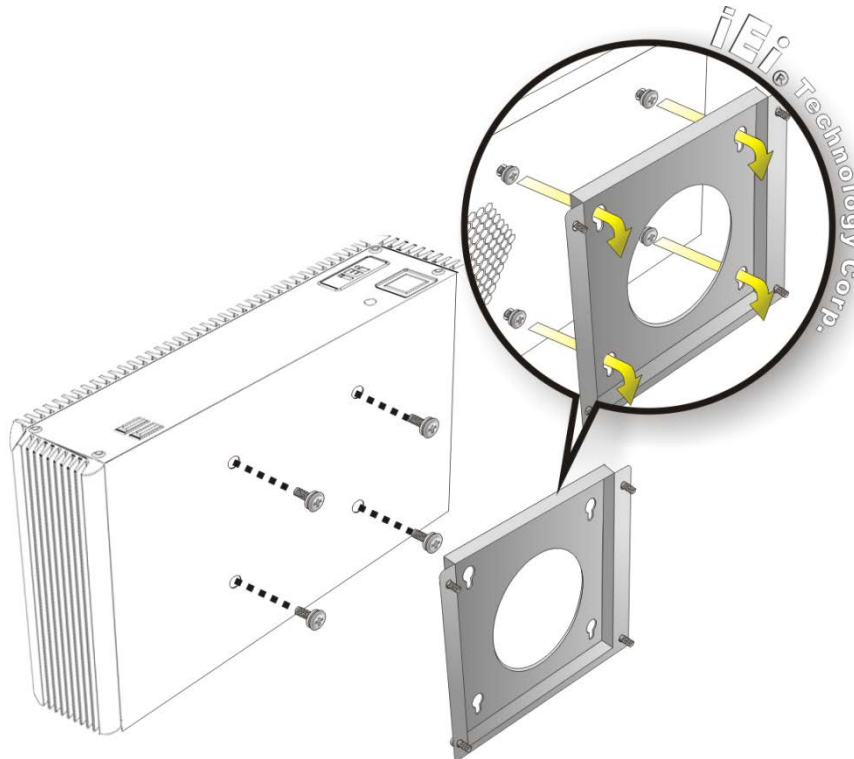

Figure 3-25: Mount the Embedded System
- Step 6:** Insert the four monitor mounting screws provided in the wall mounting kit into the four screw holes on the bottom panel of the system and tighten until the screw shank is secured against the bottom panel (**Figure 3-25**).
- Step 8:** Carefully insert the screws through the holes and gently pull the monitor downwards until the ECW-281B-BTi rests securely in the slotted holes (**Figure 3-25**). Ensure that all four of the mounting screws fit snugly into their respective slotted holes.